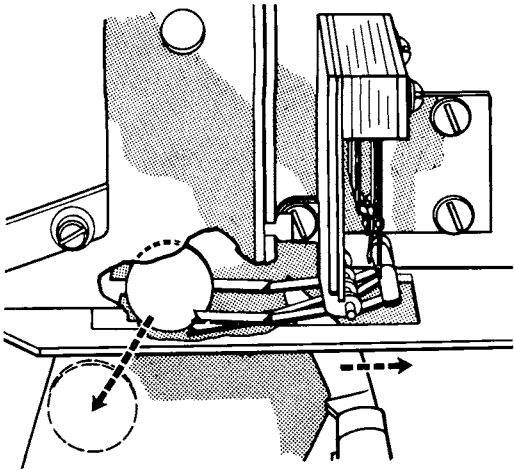

Figure 13. Coin Travel
2. Move the knife blade slowly to the right to release the coin. The contacts must come together and the back blade should move approximately 1/64" just before the coin drops through of its own weight. (See Figure 13).